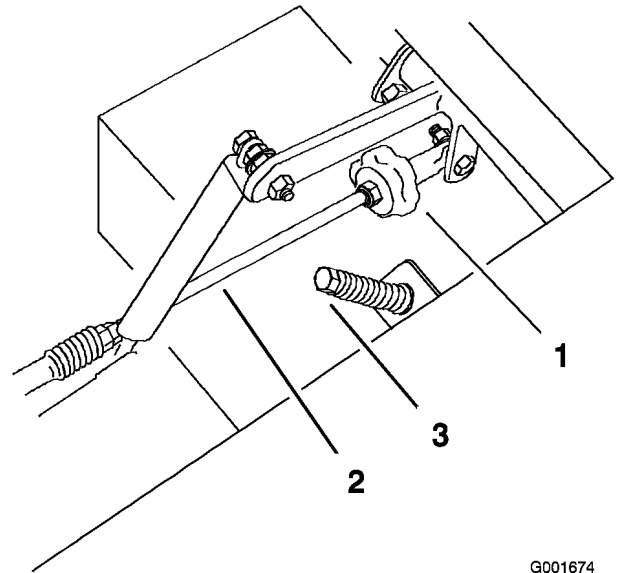

Figure 57
2. Adjust the pump rod length by rotating the knob, in the appropriate direction, until the wheel is still or slightly creeping in reverse (Figure 57).